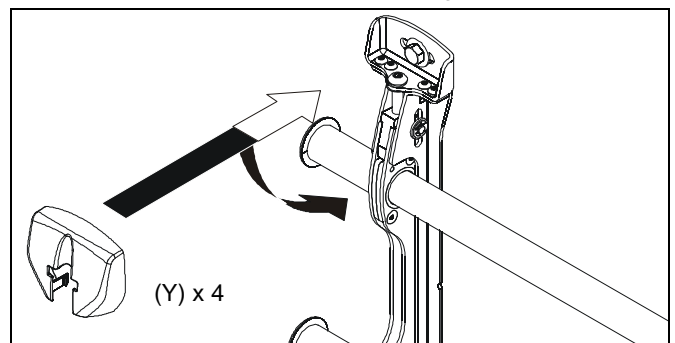

Figure 10
1. (LSMVP only) Attach wall bracket caps (Y) to top and bottom of both wall brackets. (See Figure 10)